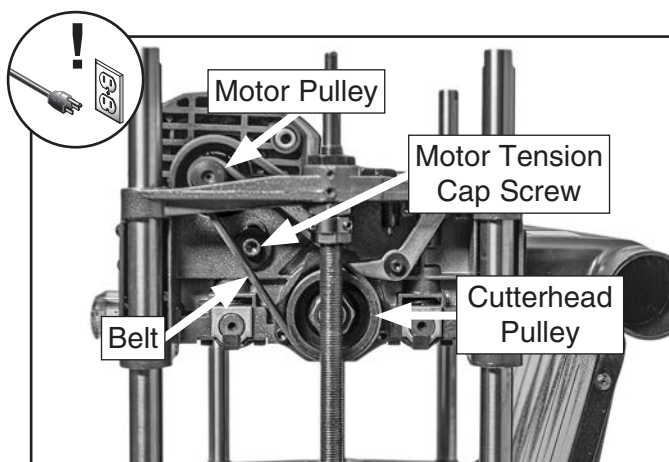

Figure 42. Drive belt and pulleys (G0939 shown).
5. Lift side cover up and away from machine to expose drive belt and pulleys, as shown in **Figure 42**.
6. Loosen motor tension cap screw (see **Figure 42**) to reduce belt tension, and roll old belt off pulleys.